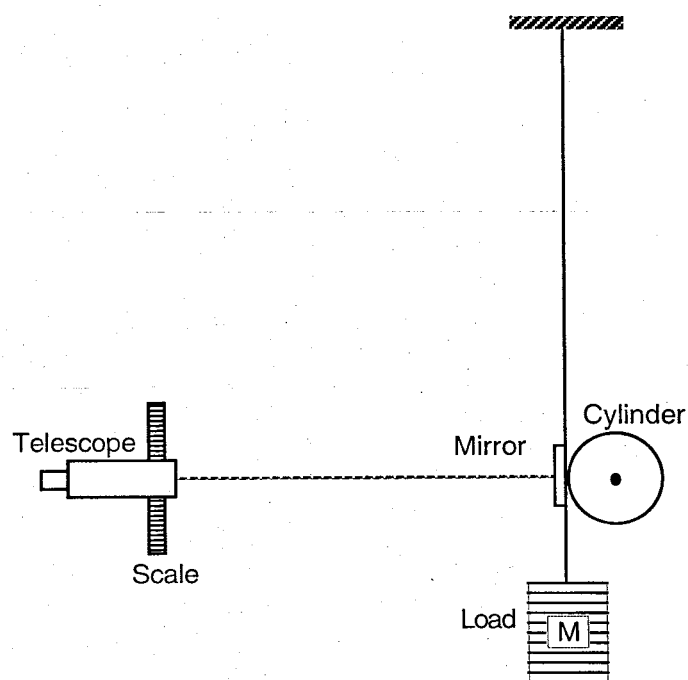

Fig. 2. Schematic Diagram of Young's Modulus Apparatus
The wire whose Young's modulus is to be determined passes over a small cylinder which is free to rotate about a horizontal axis (Fig. 2). When the length of the wire increases by an amount ΔL , the cylinder of radius r_1 rotates through an angle θ which is given by
There is a small plane mirror attached to the cylinder which rotates along with the cylinder. The increase in length ΔL and thus angle θ are very small and so an optical lever (an arrangement of scale, mirror and telescope shown in Figs. 2) is used to determine θ and ΔL .
1. Make sure that the apparatus is arranged as shown in Fig. 2. Do not disturb the setup or try to make any adjustments. Do not take off the initial load placed on the hanger.